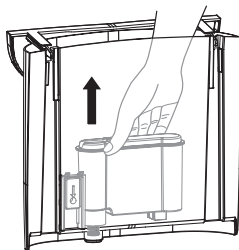

fig. 12: Removing the water filter
3. Remove the water filter (fig. 12).